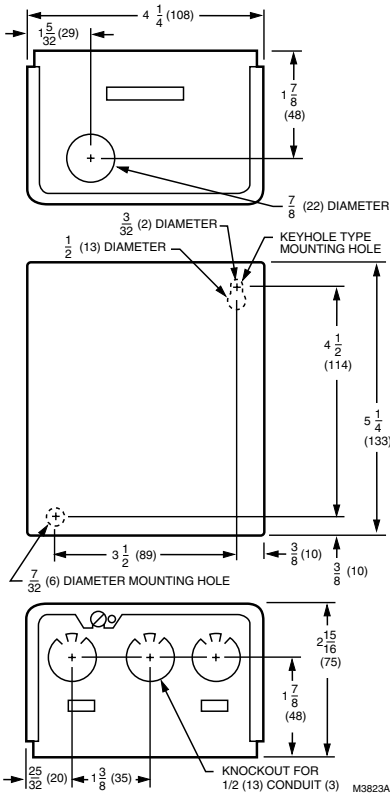

Fig. 1. R8845U dimensions in in. (mm).
See Fig. 1.
1. Position the relay and mark the mounting holes. See Fig. 1.